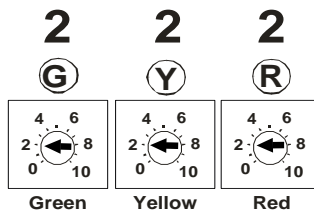

FIGURE 5
9. Before re-installing the simulated fuel tank cover and lowering seat verify your connections. Remove the door from the Fi2000 box to expose the LED's. **NOTE:** The Fi2000 base pot settings come preset from the factory for the V-Rod configured with stock air cleaner and aftermarket exhaust, shown in Figure 5. If the motorcycle is different then this configuration, use the advance tuning section to determine the proper settings. Verify the wire connections by (1) turning the ignition on, prior to starting, and see if all three LED's are on steady then cycle off after a few seconds. If you have no light, your ground connection (BLACK wire) has not made proper contact or your front injector connection is not complete. (2) After achieving a steady light from all three LED's, start the motorcycle, wait 15 seconds and let it idle, the green light should now be the only LED on. If all three LED's are still on after start up, verify you have attached the injector connectors correctly. Reattach the door when finished. Note: Make sure the ignition is turned off before changing any connection.
Your Fi2000 fuel injection module has been tested and preset for best function and rideability on a motorcycle with aftermarket air cleaner and an aftermarket performance exhaust. The Fi2000 does however, have 3 important adjustments that allow you to tune the module for optimum performance, especially if you have performed other changes to your motorcycle. These adjustments also allow you to resolve drivability issues if our stock settings are not exactly right for your bike. Make sure your motorcycle is up to normal operating temperature (15 minutes of riding should be sufficient) before making any adjustments. Remove the door to expose the pots shown in Figure 5.